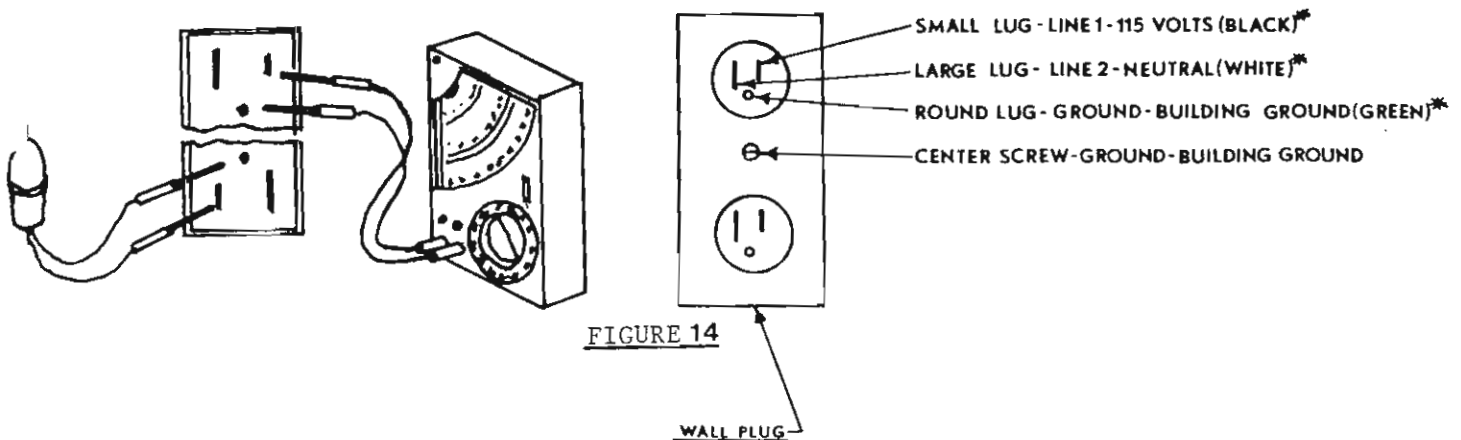

FIGURE 14
5. CONNECT TO POWER SUPPLY (Fig.14)
CAUTION: To insure safe operation of an electrical device it must be properly grounded and the power supply polarization should match that of the vender. To test refer to Fig.14 . With one probe of the test device (Test light or Volt meter) connected to the power fixture center screw and the other inserted into the large neutral orifice, you should get no light or meter reaction. When the probe is inserted in the smaller power orifice, you should get a light or meter reaction. If you get no reaction with either test, the outlet is not properly grounded. If the reaction occurs between the center screw and the large orifice, the power source is not properly polarized.